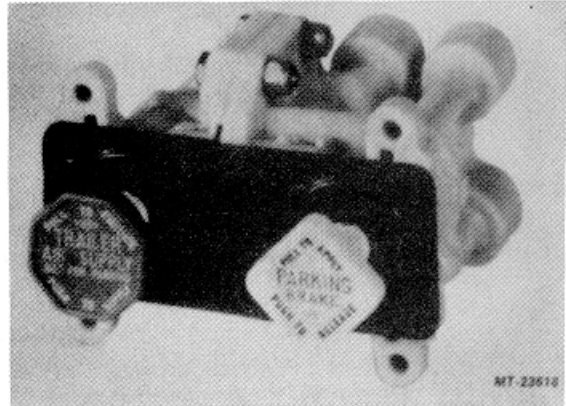

Fig. 4 Modular Control Valve
Lubricate O-rings, O-ring sealing surfaces and stem with Item 3 of LUBRICANT SPECIFICATIONS (refer to Fig. 4 for numbers in parenthesis).
The modular control valve (Fig. 4) provides the functions of a standard three (3) valve combination plus a supply reservoir selection. The major features are:
The trailer air supply valve or tractor protection control (red knob) (see Fig. 4) delivers air to the trailer supply line and also will trip (pop out) automatically and shut off the trailer supply if pressure decreases to 276 ± 27.6 kPa (40 ± 5 psi).